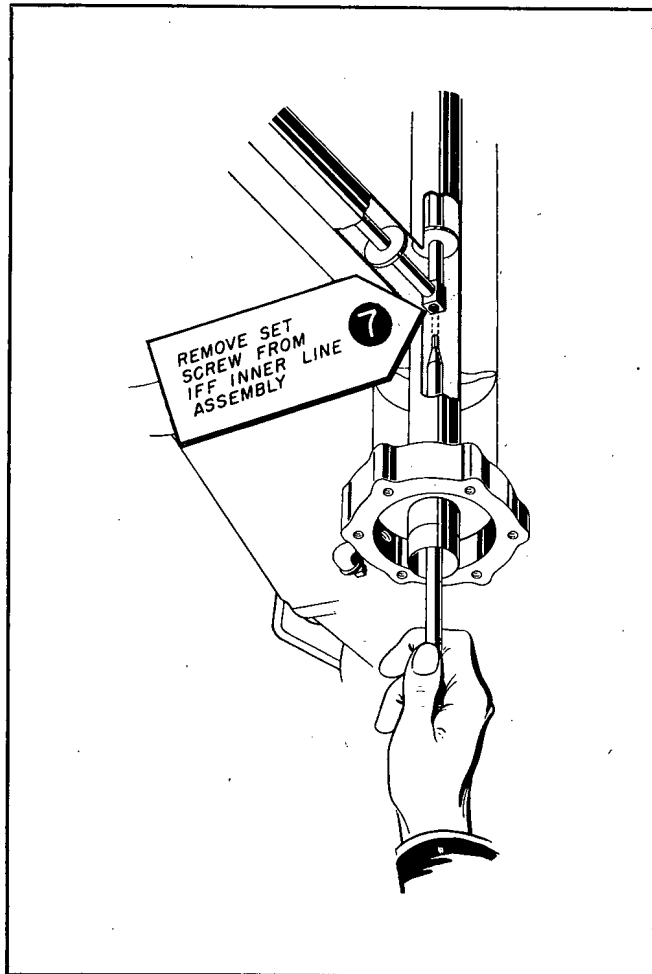
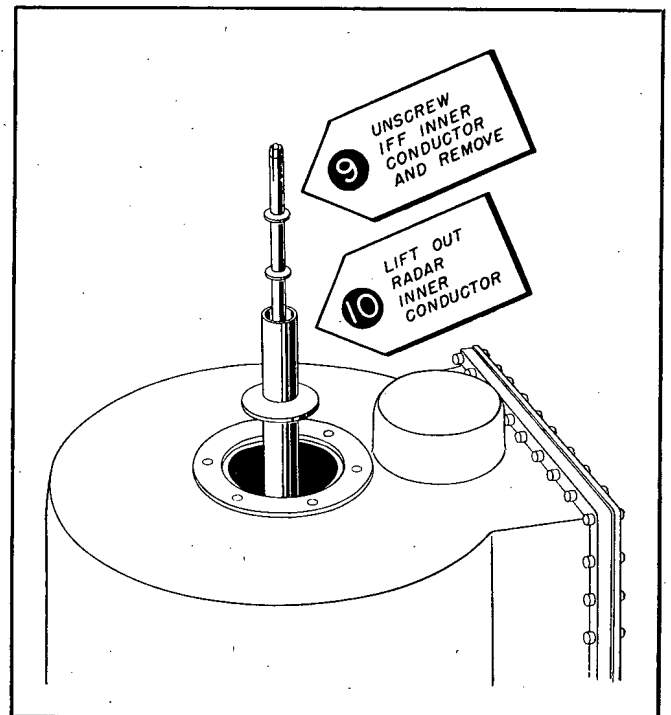

Figure 7-91. Disassembly of R-F Inner Line at T-Joint in Base of Pedestal
Figure 7-93. Removing Inner Conductors from Pedestal
(3) Step 7 in Fig. 7-91 shows the beginning of the disassembly of the IFF inner conductor. A special Allen wrench is supplied to loosen the set screw at the T-joint. It is not necessary to completely remove the screw.
(5) The next steps in disassembly are steps 9 and 10 in Fig. 7-93. First, the IFF inner conductor is turned counterclockwise until it is unscrewed from the lower section of the line shown in Fig. 7-91. When replac-